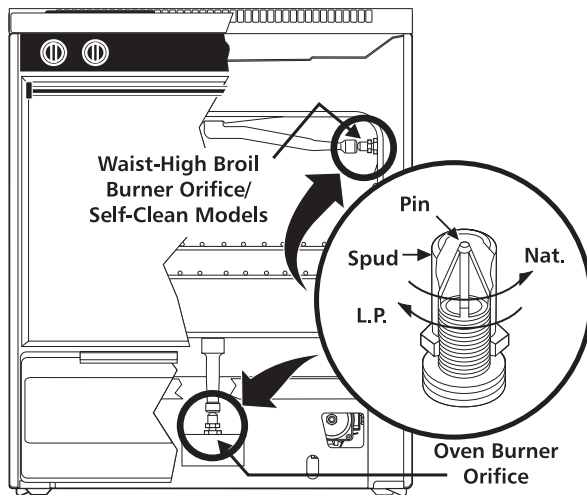

Figure 8
- Locate the oven burner spud (See Figure 8).
- Locate the broiler burner spud and turn down until snug against the LP/Propane metering pin (approximately 2-1/2 turns). **Do not over tighten** (See Figure 8).